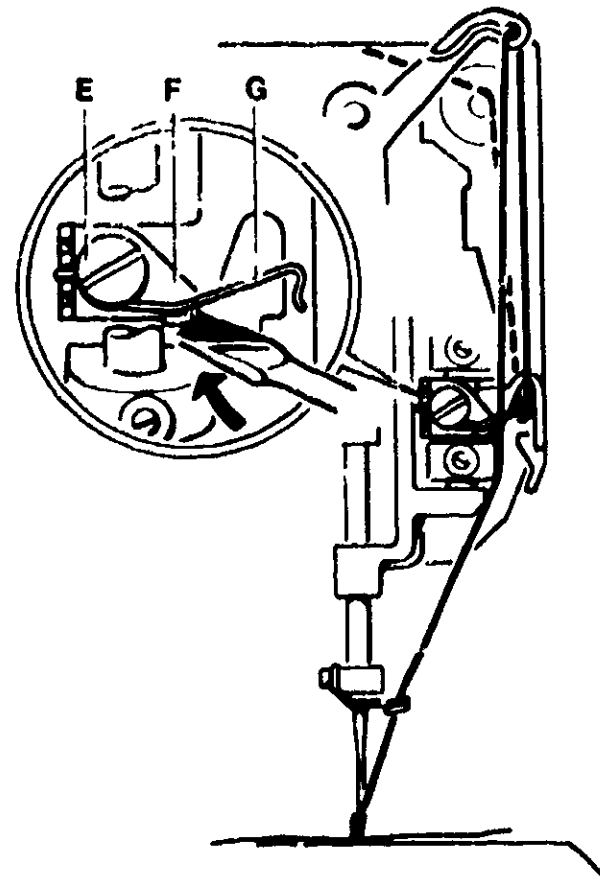

FIGURE 5
- Rotate handwheel and watch the checkspring (G) motion (Figure 5). When the checkspring is properly positioned it will contact the small limiting bracket (F) at the same time the needle tip starts piercing the fabric.
- To adjust checkspring position, loosen screw (E) and adjust limiting bracket (F), then tighten screw (E) while holding limiting bracket (F) in its newly adjusted position with a second screwdriver (Figure 5).
- Tension created by the checkspring has been factory adjusted. Adjustment was made by positioning checkspring tail into one of the notches curved in the back end of the checkspring bracket (F) to achieve a tension load on the thread of 13.17 grams.